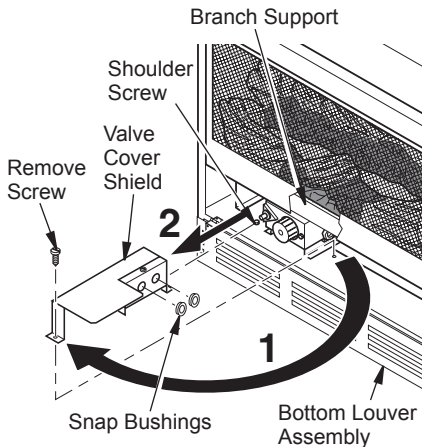

Figure 16 - Removing Valve Cover Shield
1. Open bottom louver assembly by swinging the assembly down (see Figure 16, page 14).
IMPORTANT: Do not remove shoulder screw on the left side of valve cover shield. Slide the valve cover shield off of the shoulder screw (see Figure 16, page 14).